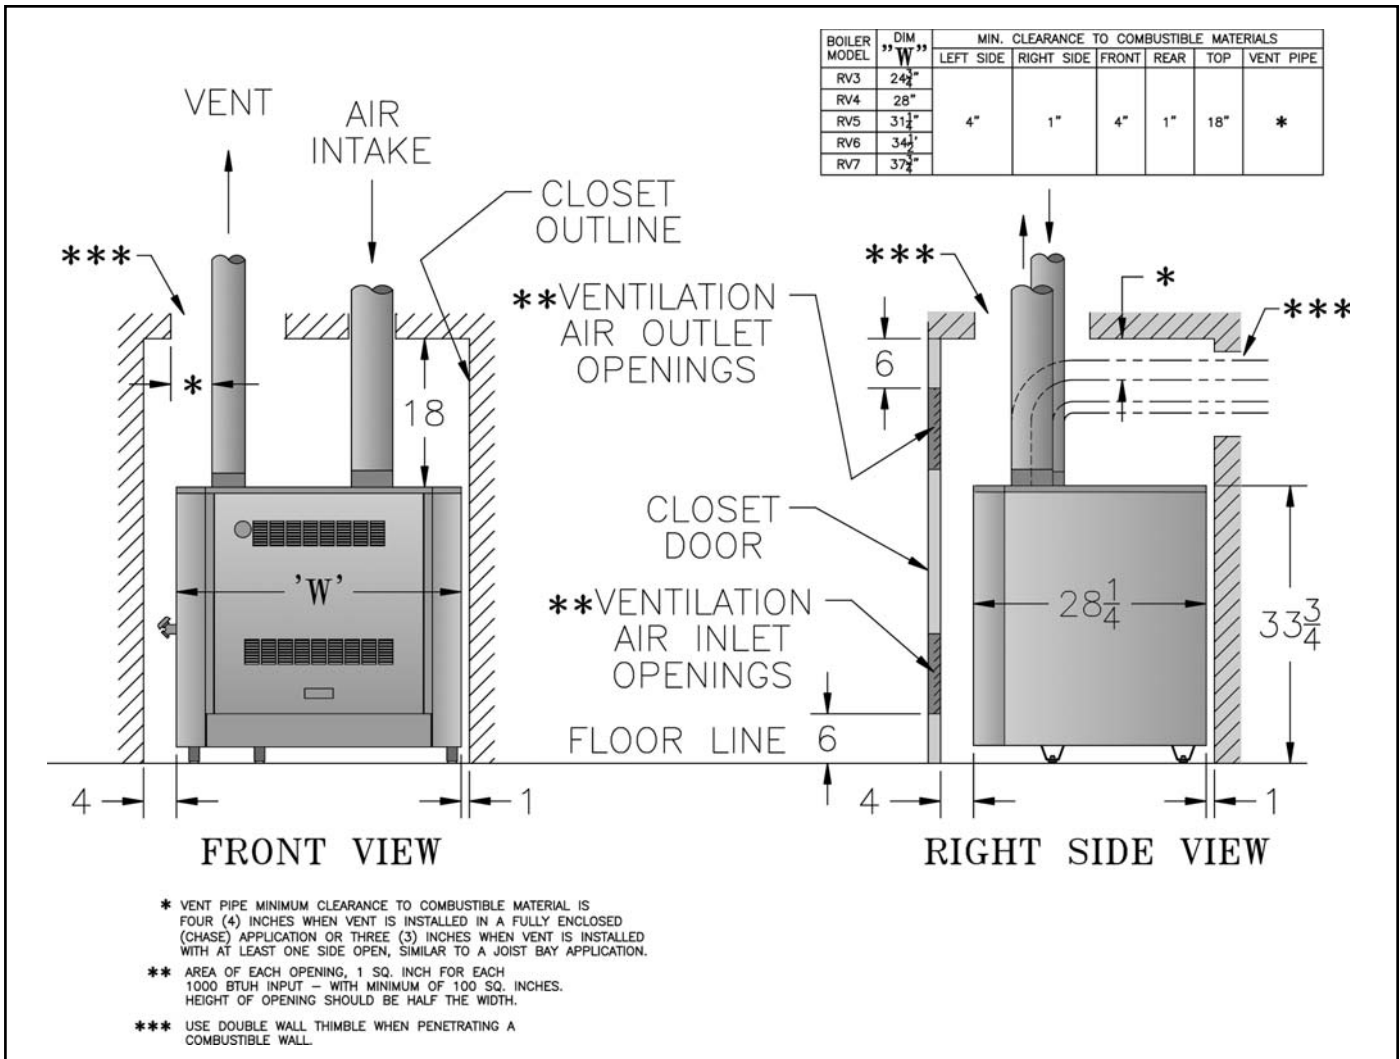

Figure 1: Minimum Clearances to Combustibles
- C.** Provide clearance between boiler jacket and combustible material in accordance with local fire ordinance. Refer to Figure 1 for minimum listed clearance from combustible material. Recommended service clearance is 24 inches from left side, right side and front. Service clearances may be reduced to minimum clearances to combustible materials.